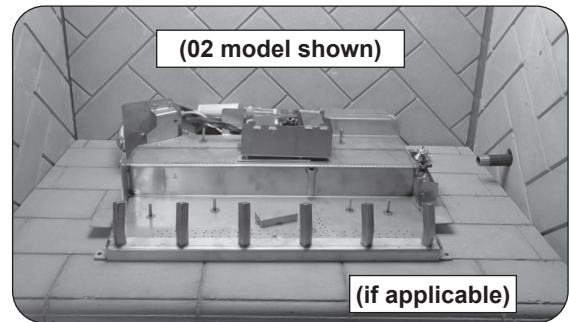

Fig. 20-1 Center burner in fireplace
3. Place the burner system in the fireplace. Center the burner from left to right in the fireplace. (Reference Fig. 20-1 for orientation).